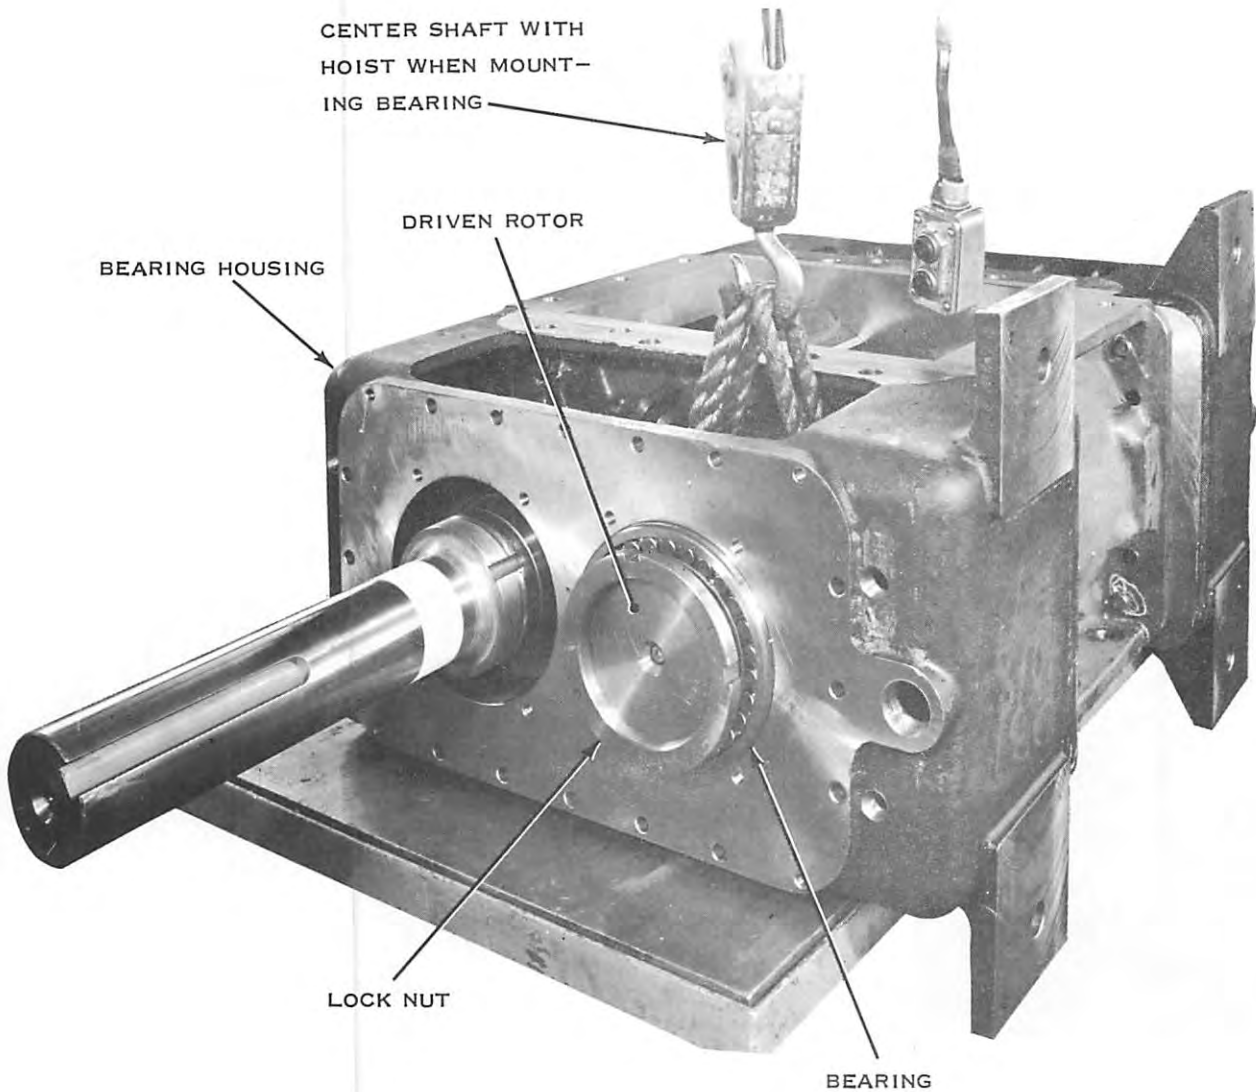

FIGURE 10. MOUNTING BEARING ON ROTOR
6. SUPPORT ROTOR IN CENTER OF BEARING HOUSING AS SHOWN IN FIGURE 10.